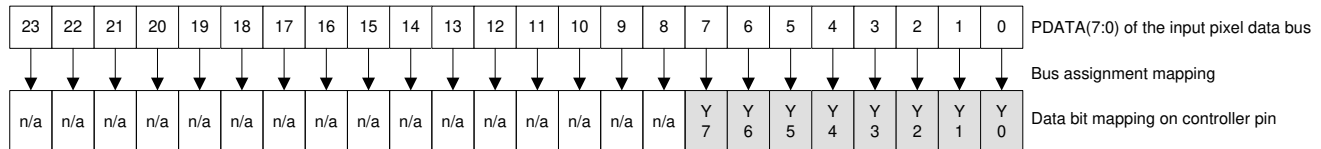

图 6-9. BT.656 Interface Mode Bit Mapping
- Calculate clock jitter (in ns) using this formula: Jitter =  $[1 / f_{clock} - 5.76 \text{ ns}]$ . Clock jitter must maintain setup and hold times. BT.656 data bits must be mapped to the DLPC34xx PDATA bus as shown in 图 6-9 shows BT.656 bus mode YCbCr 4:2:2 source PDATA (23:0) mapping.
- The BT.656 interface accepts 8-bits per color, 4:2:2 YCbCr data encoded per the industry standard through PDATA(7:0) on the active edge of PCLK. See 图 6-9.